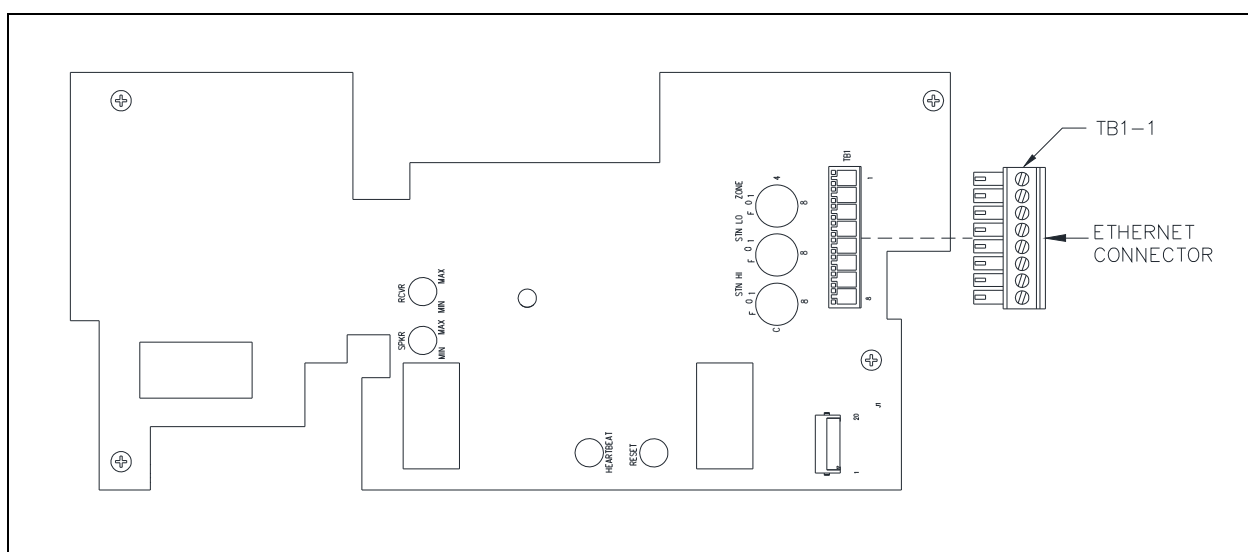

Figure 8. POE Interface PCBA
The POE interface PCBA is mounted on top of the main PCBA. Terminate the Ethernet cable to terminal block TB1 on the POE interface PCBA (see Figure 8):
4. Connect the pluggable terminal block to the POE interface PCBA (see Figure 8).